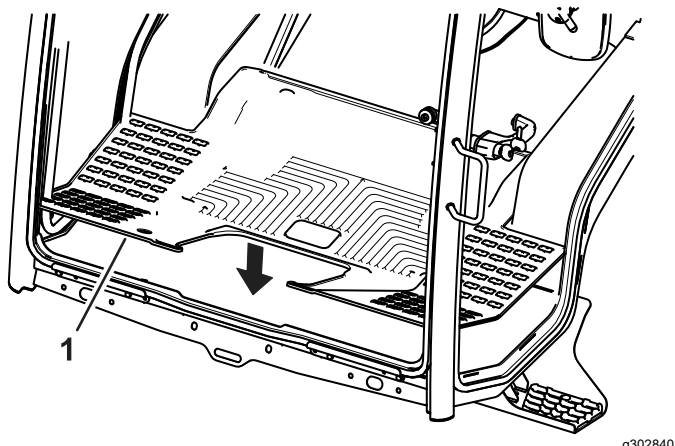

Figure 19
4. Install the floor mat into the cab (Figure 19).